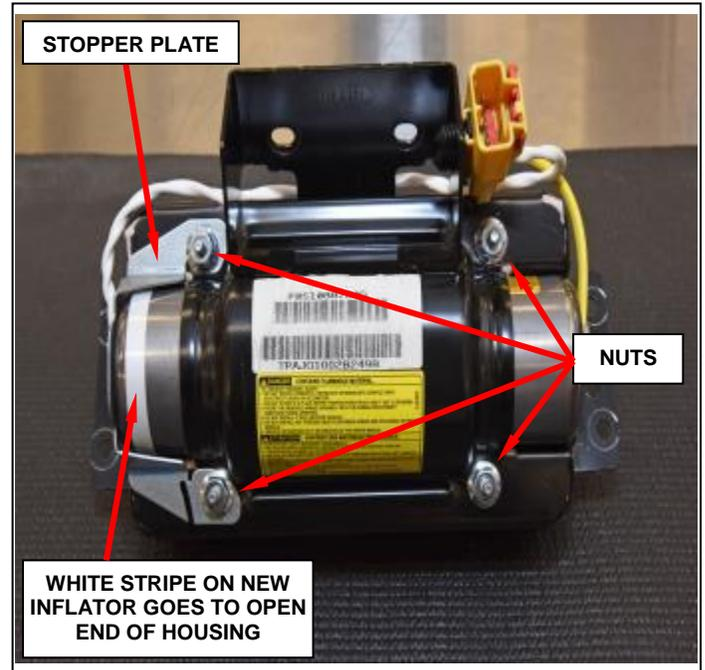

Figure 60 – Stopper Plate and Nuts
- o. Position the stopper plate to the airbag housing (Figure 60).
- p. Install the four **NEW** mounting nuts to the airbag housing and tighten to 53 in. lbs. (6 N·m) (Figure 60).